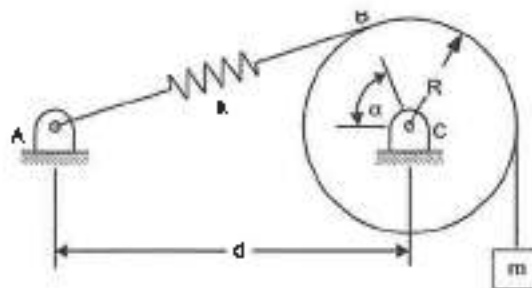

Figure 2
- 2) In figure 2, the spring is unstretched when $\alpha = 0$ and k is the spring constant. Write a MATLAB program to compute and plot the mass m corresponding to equilibrium as a function of α for values of α from 0° to 90° . Find the value of α corresponding to equilibrium $m=2.5\text{kg}$. Given $R = 210\text{ mm}$, $d = 50\text{ mm}$ and $k = 1.2\text{ kN/m}$.